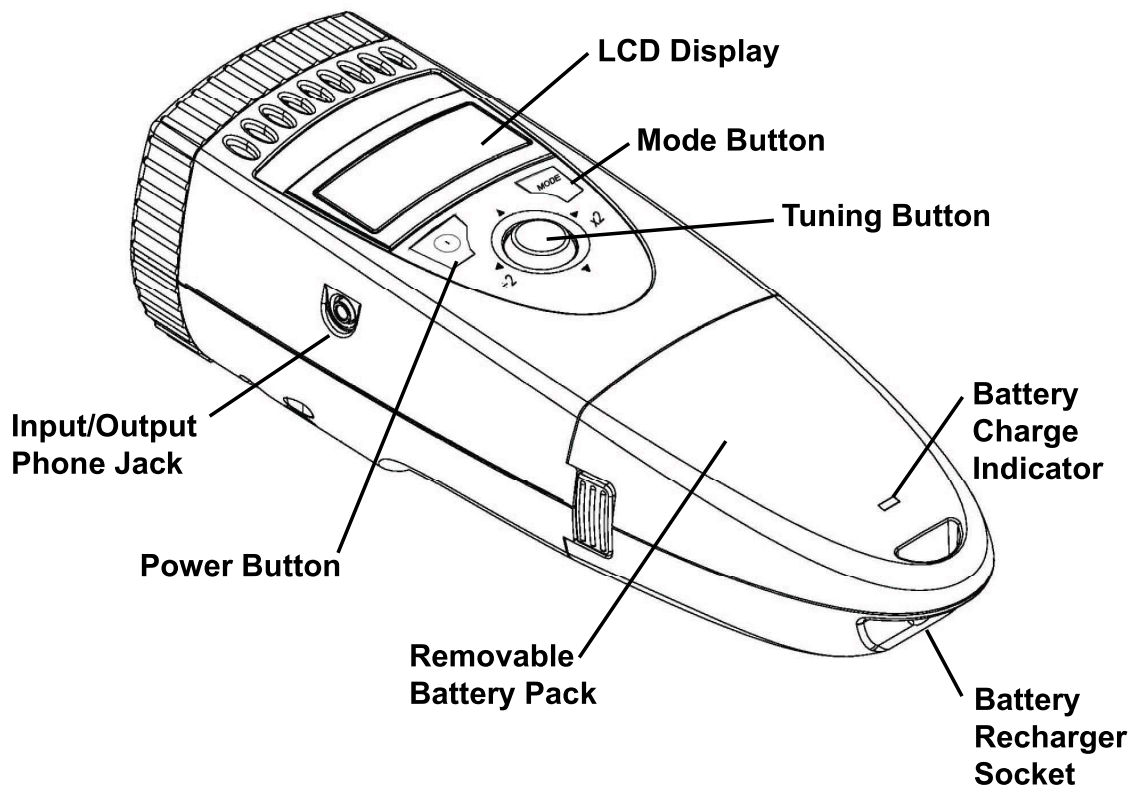

Figure 1 PALM STROBE x
2. Plug the recharger cable into the battery recharger socket on the Battery Pack (see Figure 1 for location).